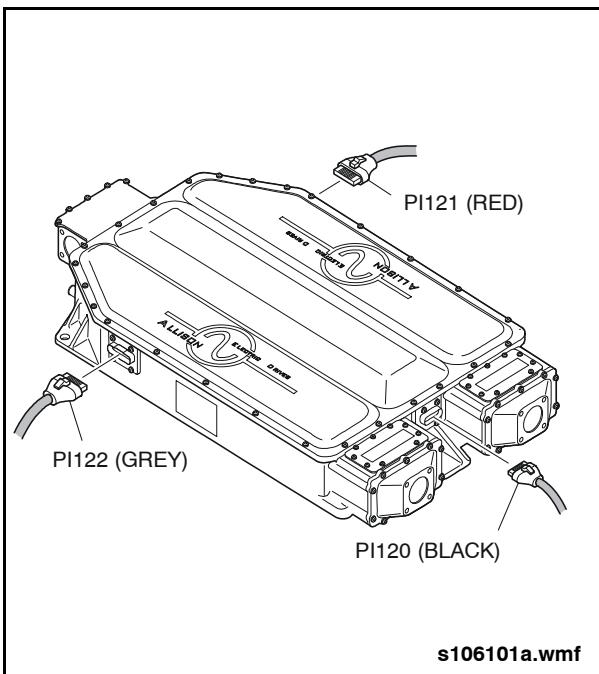

Fig. 51: DPIM Low Voltage Connections
3. Remove connector PI120 (low voltage 24-pin connector) from the DPIM. See "Fig. 51: DPIM Low Voltage Connections" on page 3.